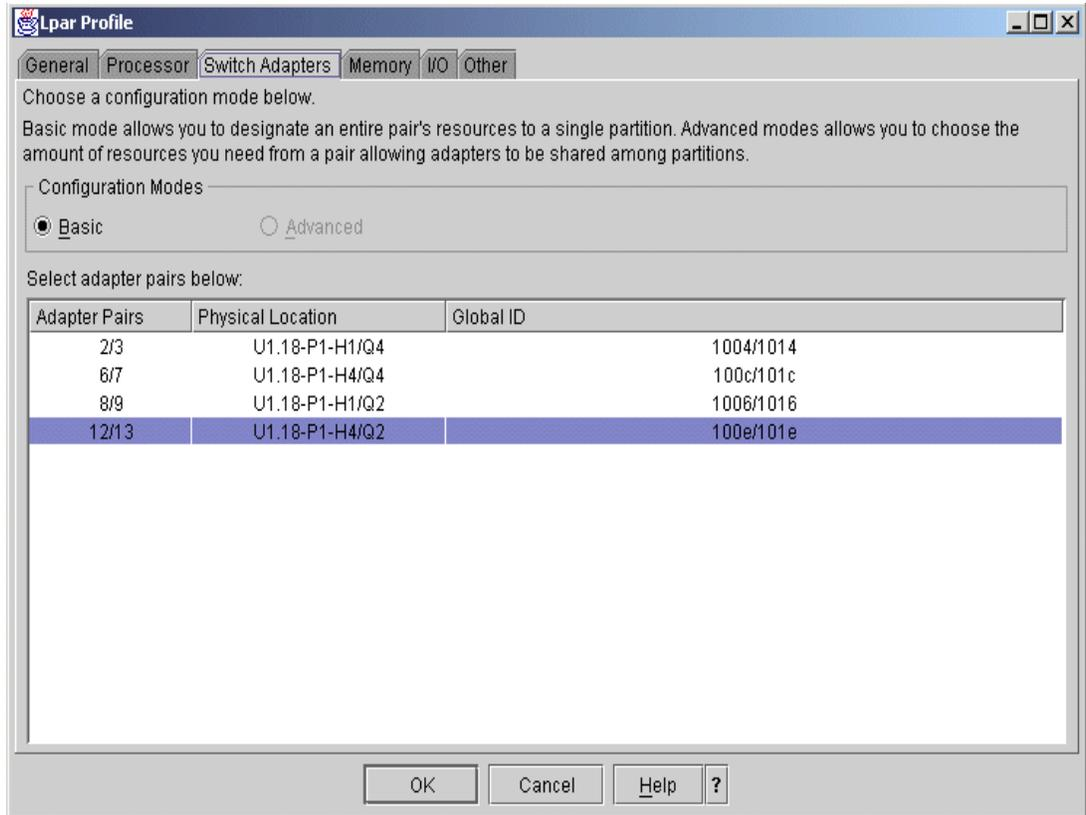

Figure 15 Adding the SNIs to an existing LPAR
3. Select the Switch Adapters tab and select the appropriate SNIs. See Figure 15 on page 26.